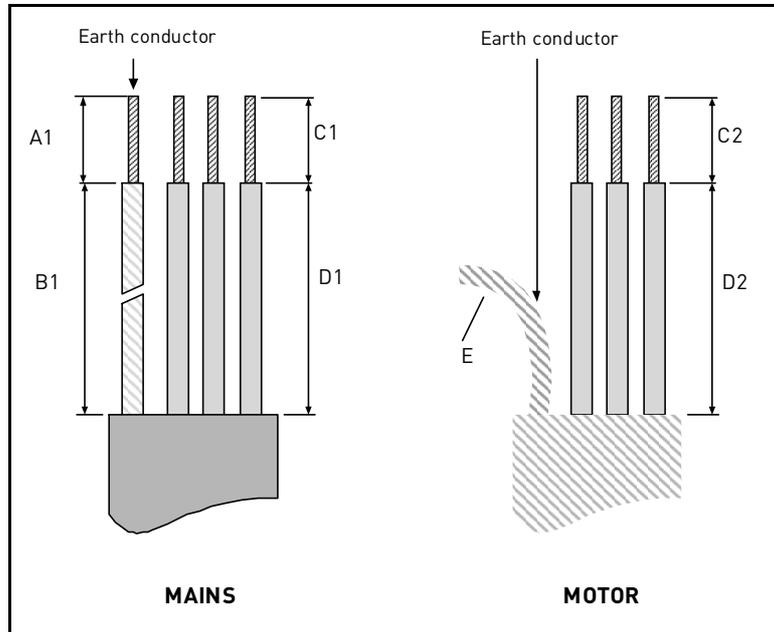
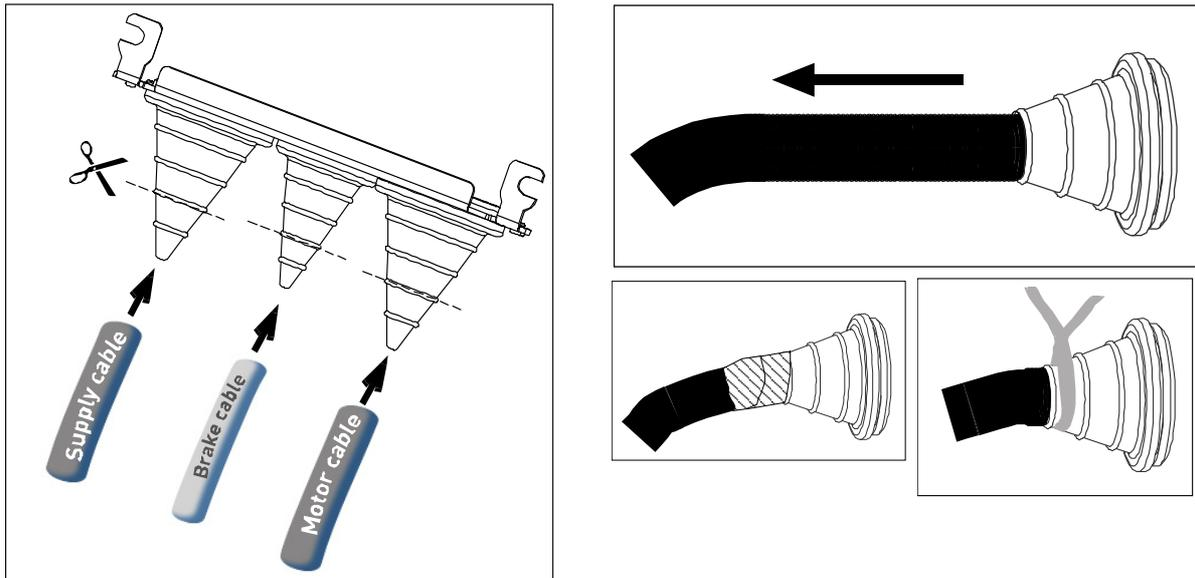
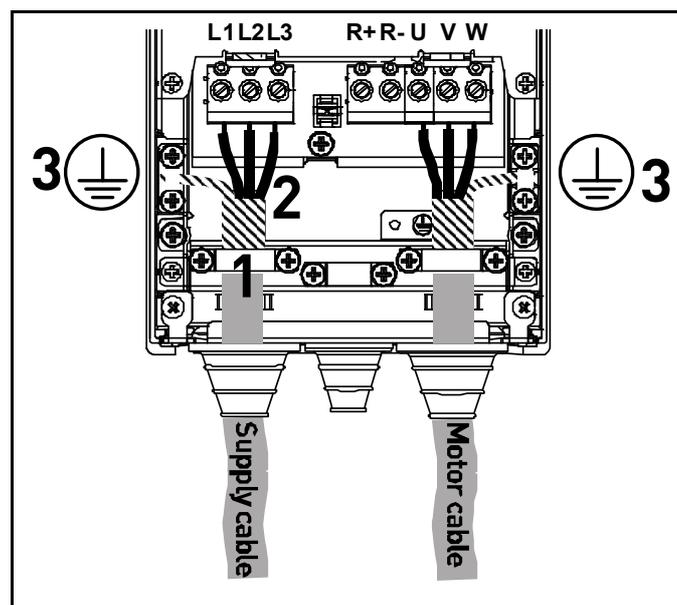

Figure 14. Stripping of cables
Figure 18.
Figure 21.
7	<p>Connect the stripped cables (see Figure 14 and Figure 18) as shown in Figure 21.</p> <ul style="list-style-type: none"> <li>• Expose the shield of all three cables in order to make a 360-degree connection with the cable clamp (1).</li> <li>• Connect the (phase) conductors of the supply, brake and motor cables into their respective terminals (2).</li> <li>• Form the rest of the cable shield of all three cables into “pigtailed” and make a grounding connection with a clamp as shown in Figure 21 (3). Make the pigtailed just long enough to reach and be fixed to the terminal - not longer.</li> </ul>
To meet the requirements of the enclosure class IP54, the connection between the grommet and the cable must be tight. Therefore, lead the first bit of the cable out of the grommet straight before letting it bend. If this is not possible, the tightness of the connection must be ensured with insulation tape or a cable tie. As an example, see Figure 18.